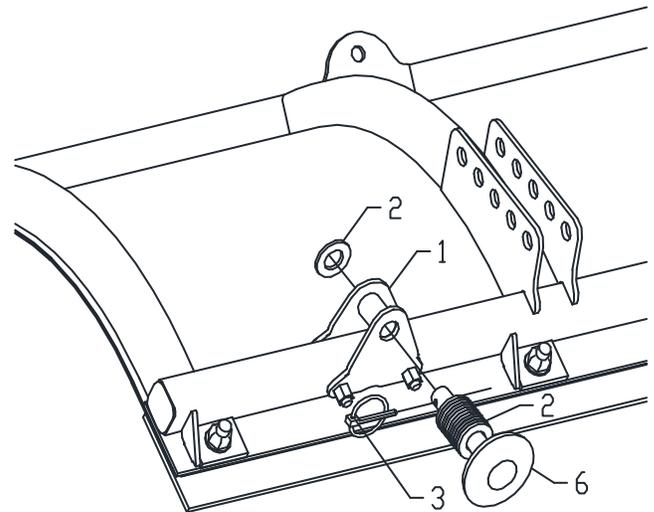

Figure 3. Plow Shoe Assembly G10924
- 8) Leaving fourteen 3/4" Washers (2) on Plow Shoe (6), insert Plow Shoe (6) through the bottom of the Plow Shoe Mounting Bracket (1). See Figure 3.
- 9) Place remaining 3/4" Washer (2) on the shaft of Plow Shoe (6) above the top of the Plow Shoe Mounting Bracket (1).
- 10) Insert 3/16" Quick Pin (3) through the hole in Plow Shoe (6).
- 12) After mounting the plow on the vehicle, check height of Plow Shoes (6) and adjust as necessary. Adjustment can be accomplished by moving 3/4" Washers (2) from above Plow Shoe Bracket (1) to below Plow Shoe Bracket (1) or reversely from below Plow Shoe Bracket (1) to top of Plow Shoe Bracket (1).